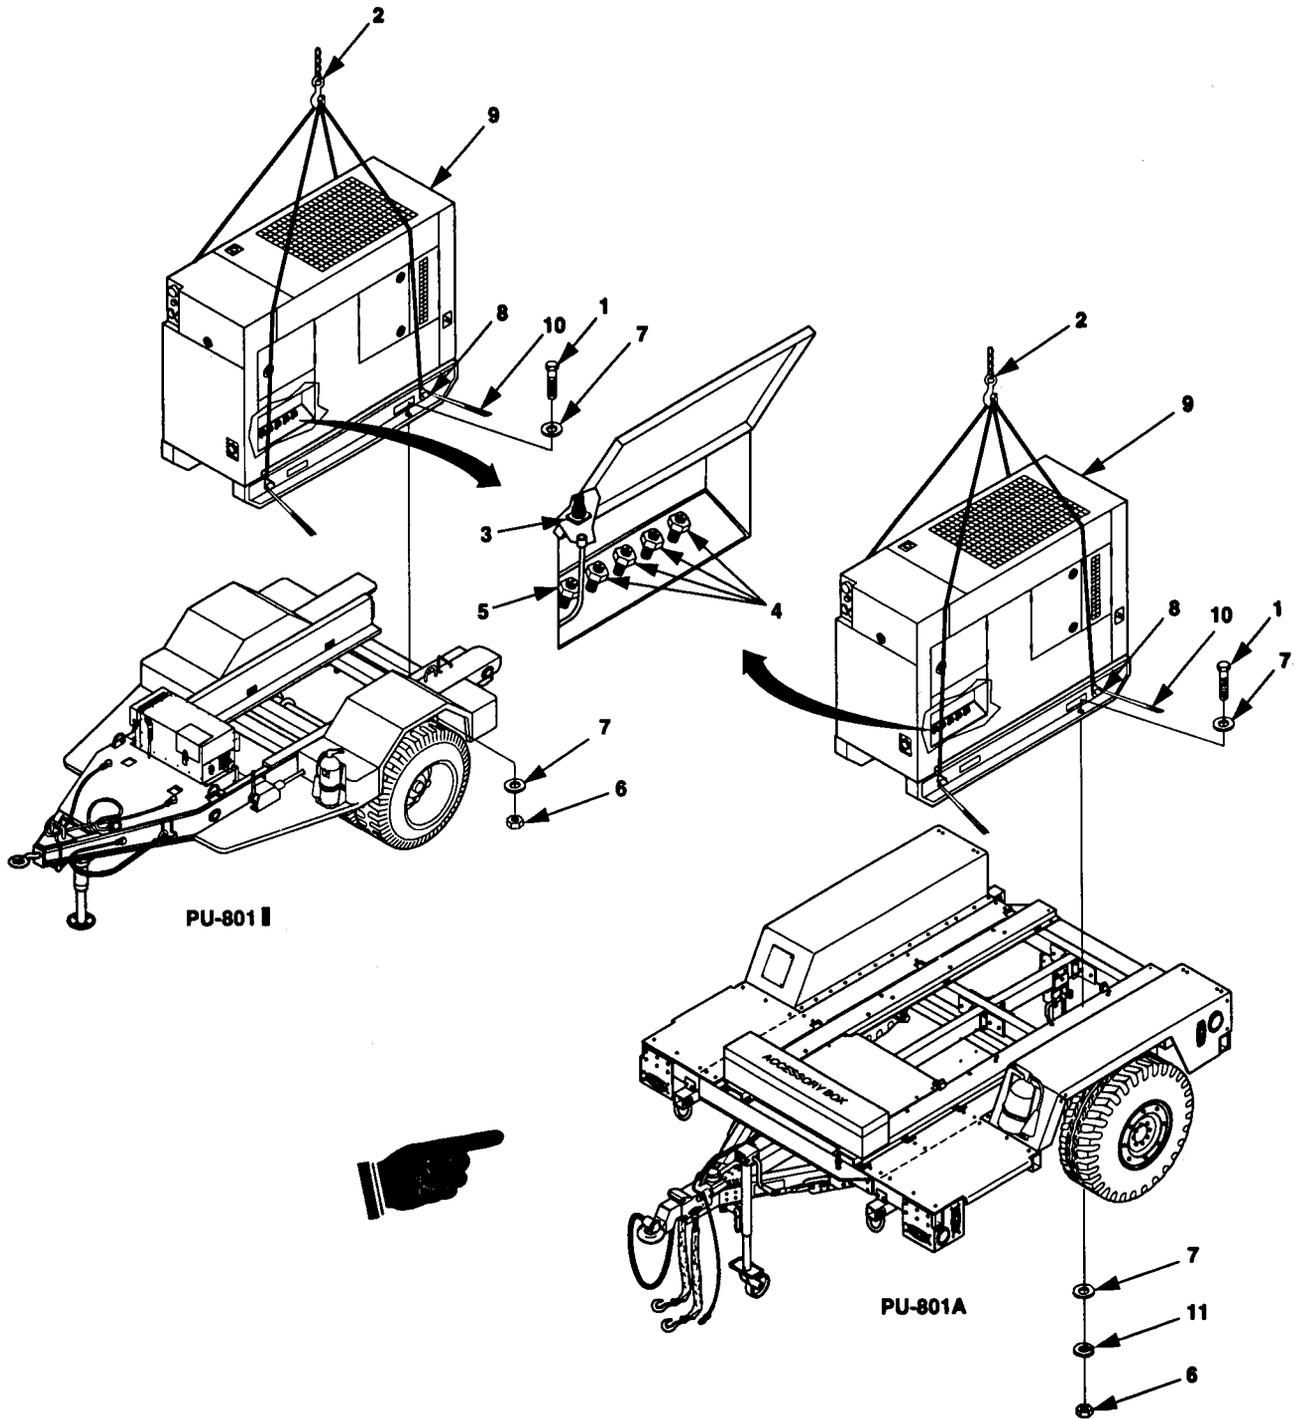

Figure 5-10. Generator Set Removal.
1. When removing the generator set from unit A of the power plant, disconnect P1 (3, Figure 5-10) from generator set.
2. Loosen GND terminal of generator set and disconnect ground cable (5) from the generator set.
5. Attach lifting equipment (2) with a minimum lifting capacity of 6000 lb as shown in figure 5-10.
6. Insert ropes (10) through each of four lifting rings (8) on the generator set as shown in figure 5-10.
7. With one person at each rope (10) to steady and guide generator set (9), lift generator set.
1. Attach lifting equipment (2) with a minimum lifting capacity of 6000 lb as shown in figure 5-10.
2. Insert rope (10) through four lifting rings (8) on generator set (9).
3. With one person at each rope (10) to steady and guide the generator set (9), lift the generator set.